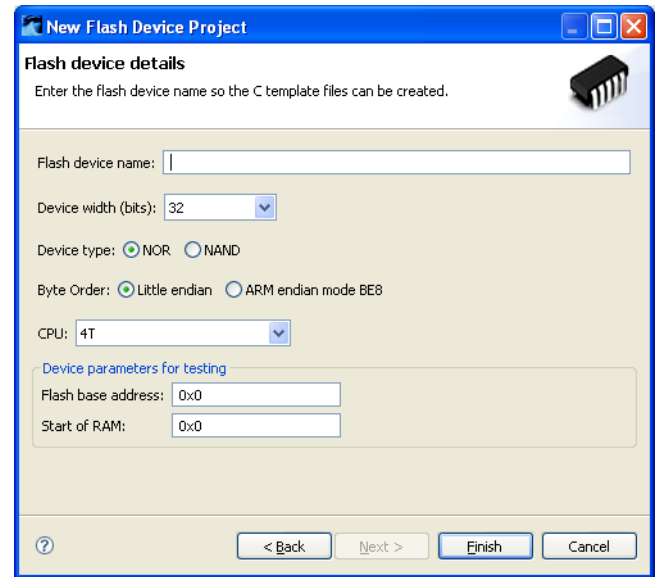

Figure 6-14 Flash device details
5. Enter the flash device details for your project as appropriate, see Figure 6-14. Ensure you enter a meaningful name in the Flash Device Name field. Click on **Next**.